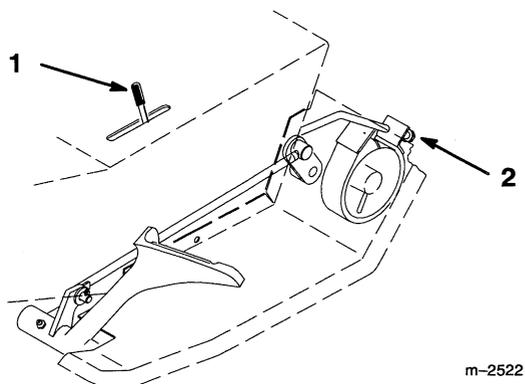

Figure 25
The brake adjustment is behind the left side cover (Fig. 25). If the parking brake does not hold securely, an adjustment is required.
3. To adjust the brake tighten adjustment nut until rear wheels skid, then tighten an additional 1/2 turn (Fig. 25).